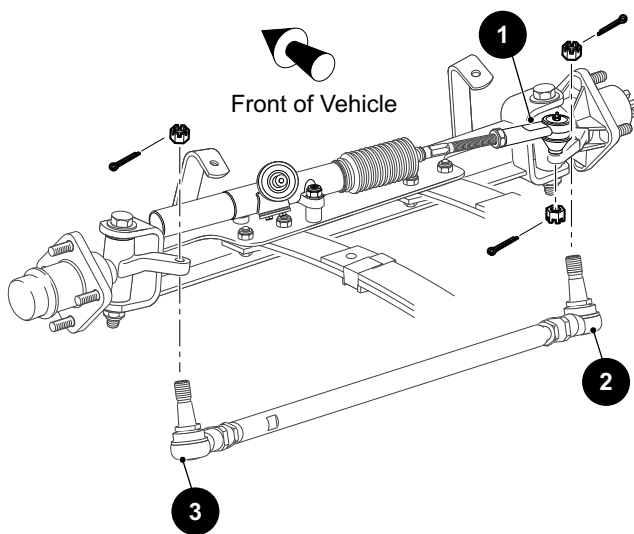

Figure 2 Lubrication Points
Grease the rack ball joint (1) (Ref. Figure 2) per THE SCHEDULED MAINTENANCE CHART section. Wipe off old grease that is forced out of the rubber boot.